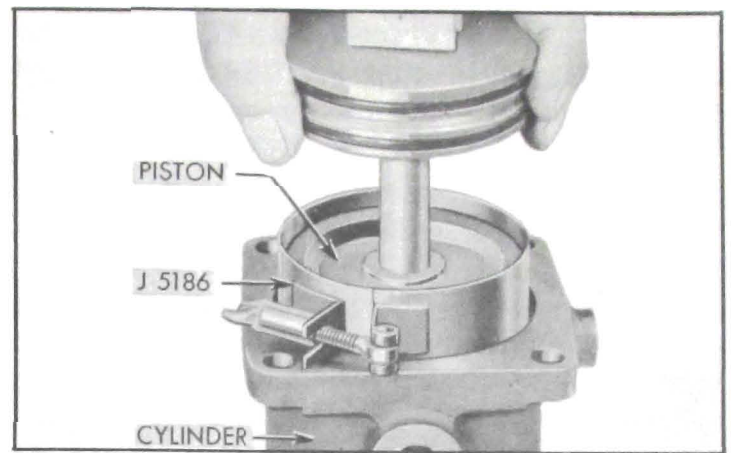

Figure 7-17—Installing Piston With Ring Compressor
23. Use Ring Compressor J 5186 to compress the piston rings, then install piston and adapter in power cylinder. See figure 7-17. It may be necessary to tap the end of power rack with a soft mallet to push rings through the compressor and into cylinder. Tap the adapter down flush with cylinder flange.